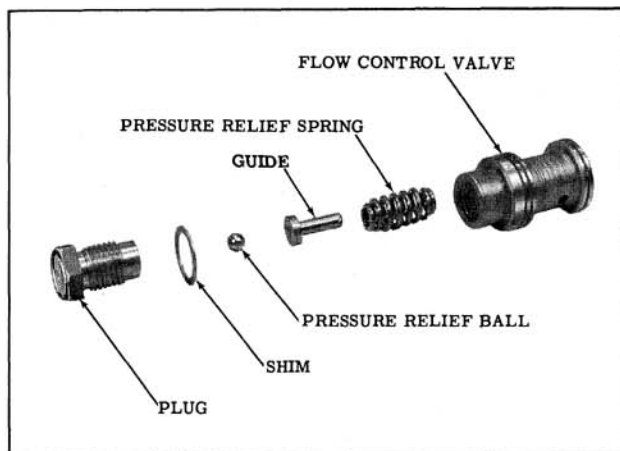

Fig. 8-29 Flow Control Valve
- b. Remove the hex head plug and shims. (Fig. 8-29) Note the number of shim(s) on the plug so the same number of shim(s) can be reinstalled during assembly.
1. If the flow control valve was disassembled, assemble as shown in Fig. 8-29. Use the same number of shims removed, as altering shim thickness will change relief pressure. Tighten the plug to approximately 4 ft. lbs.